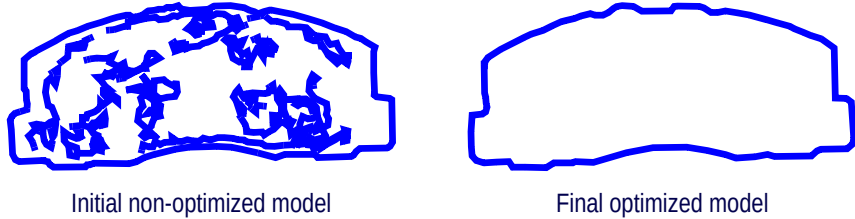

Figure 153 Model Optimization of a Noisy Object
- Cases when a single model contains unwanted features resulting from noise or irregularities in the object and manual editing of the model to remove these extra features is not practical such as illustrated in Figure 153.